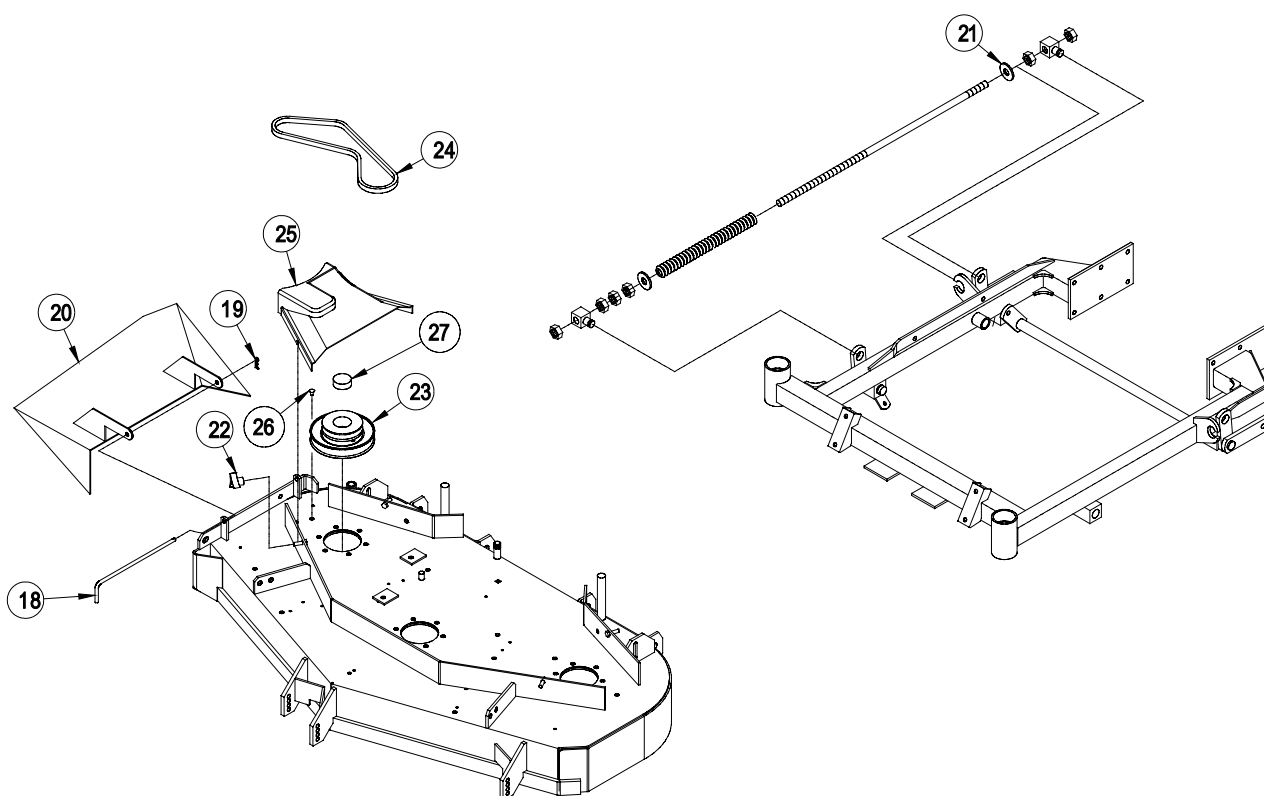

FIGURE 2
10. Install the new belt cover (Item 25) secure with the two belt shield knobs (Item 22) as shown in Figure 2.